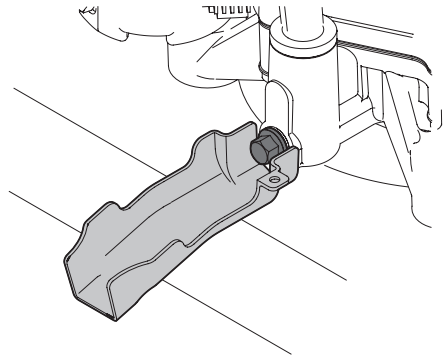

Figure 23
- Snap the small end of the oil drain sleeve onto the oil sump. See Figure 23.